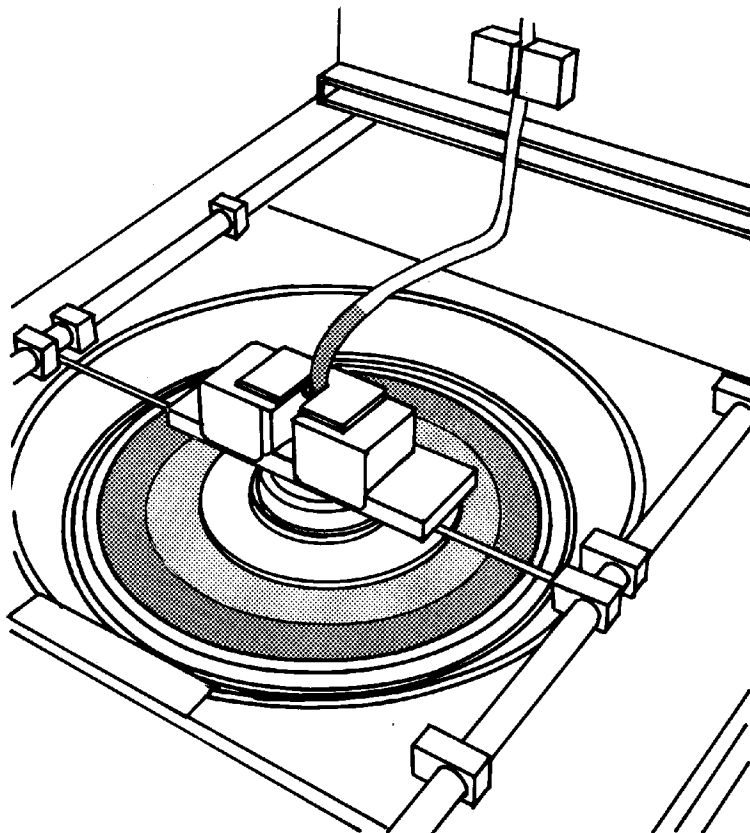

Figure 6-19: Cell separation
- 4 Set a separate timer and spin until the desired time has elapsed, or until cell product has sufficiently separated (Figure 6-19).